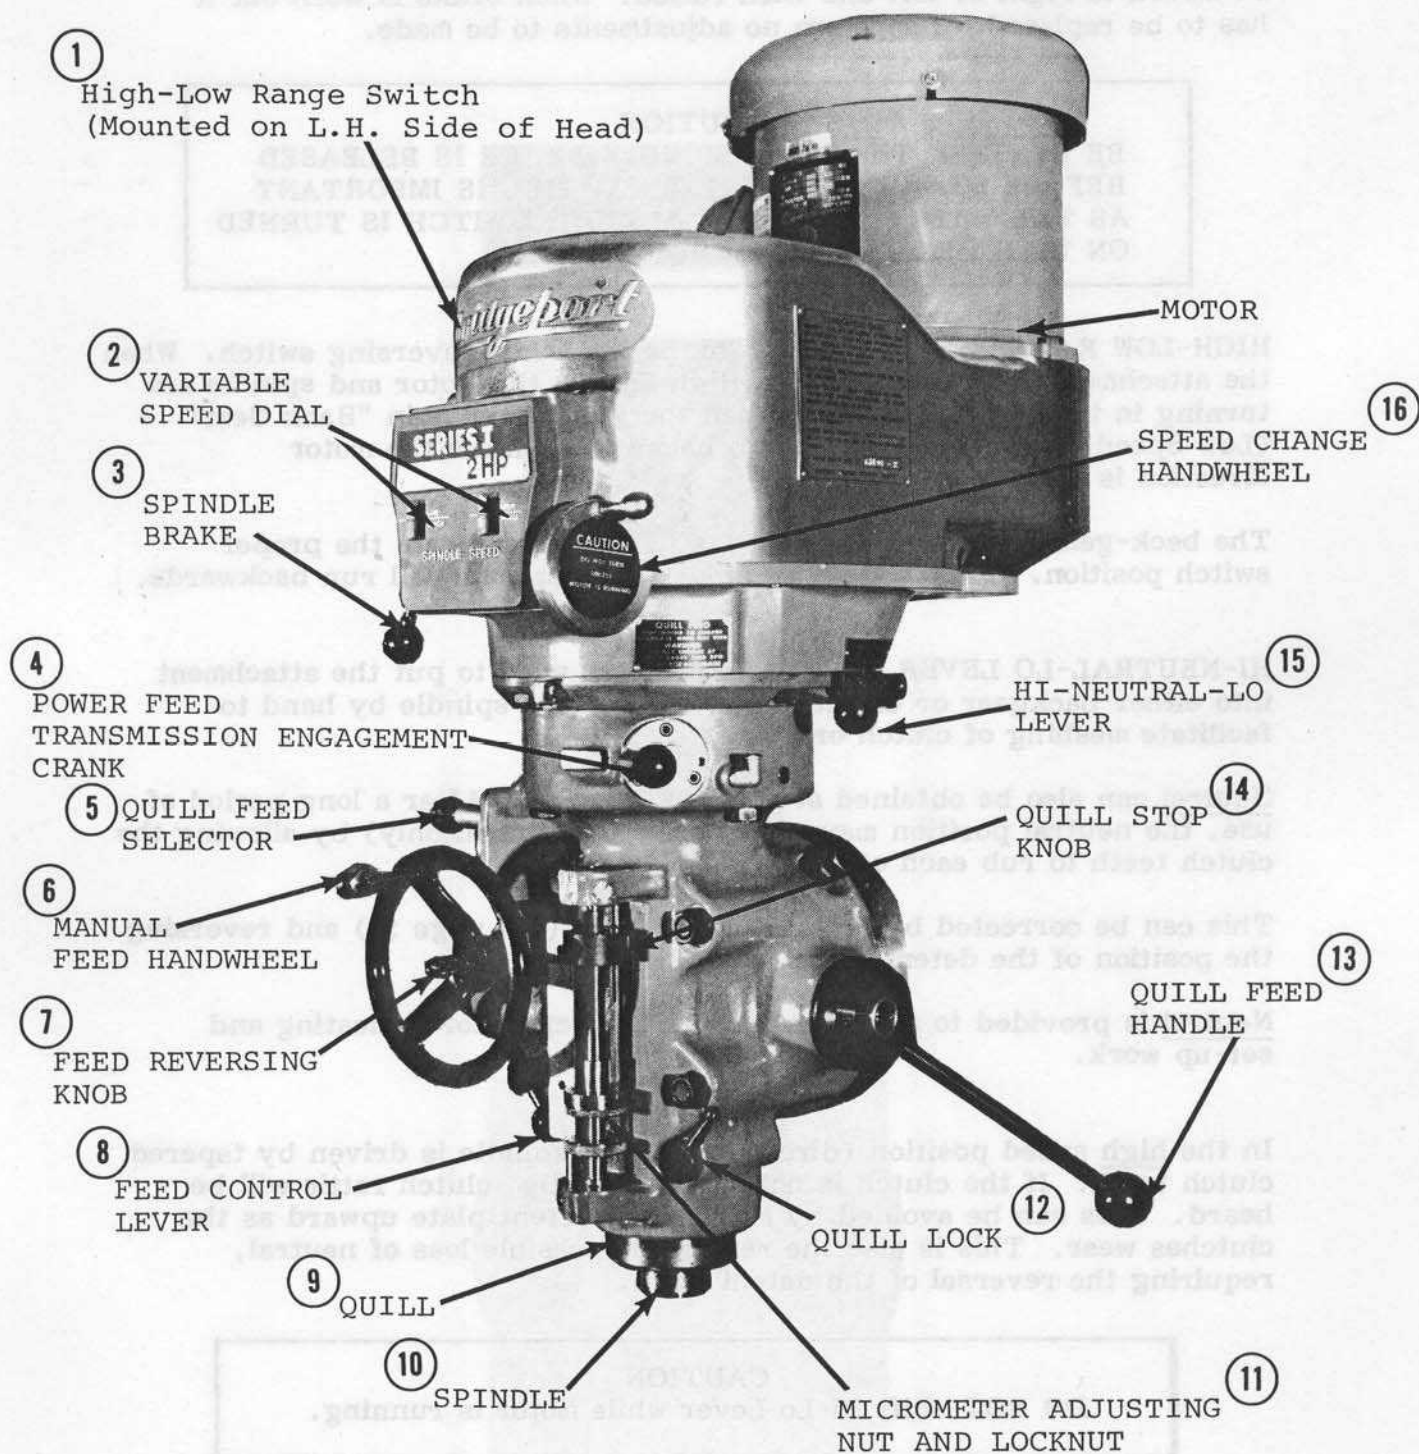
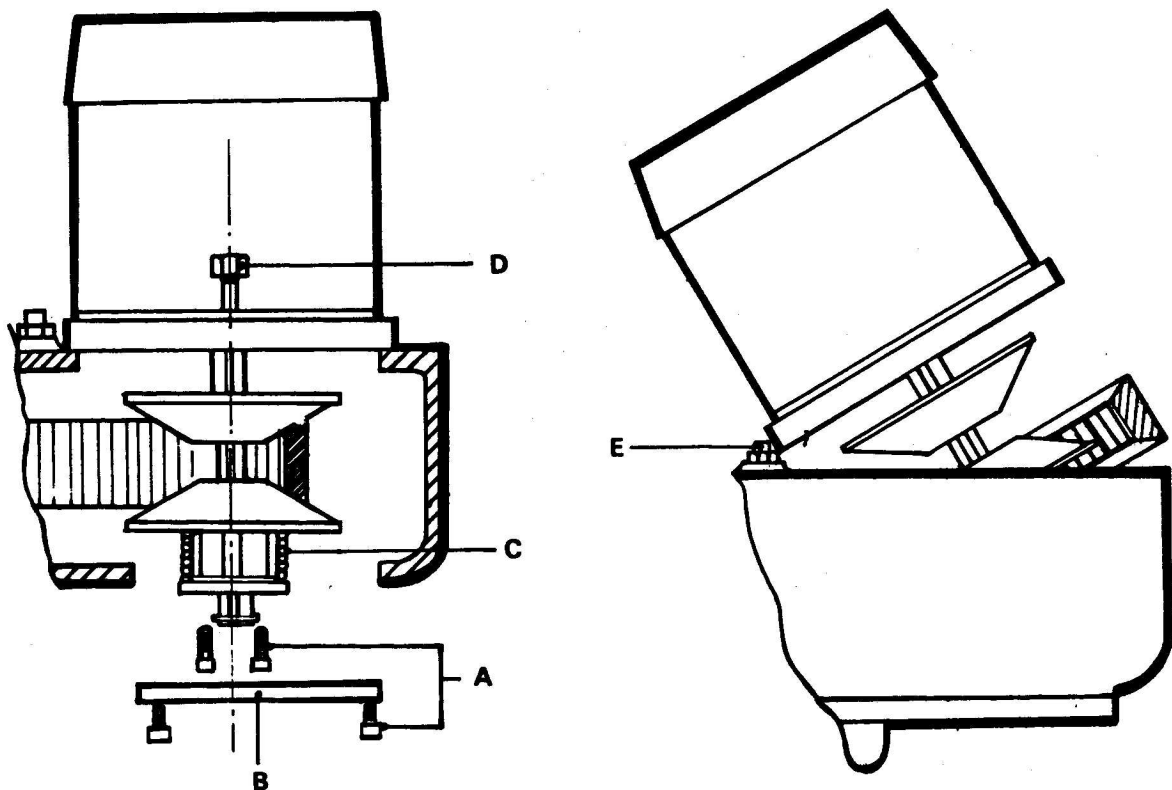
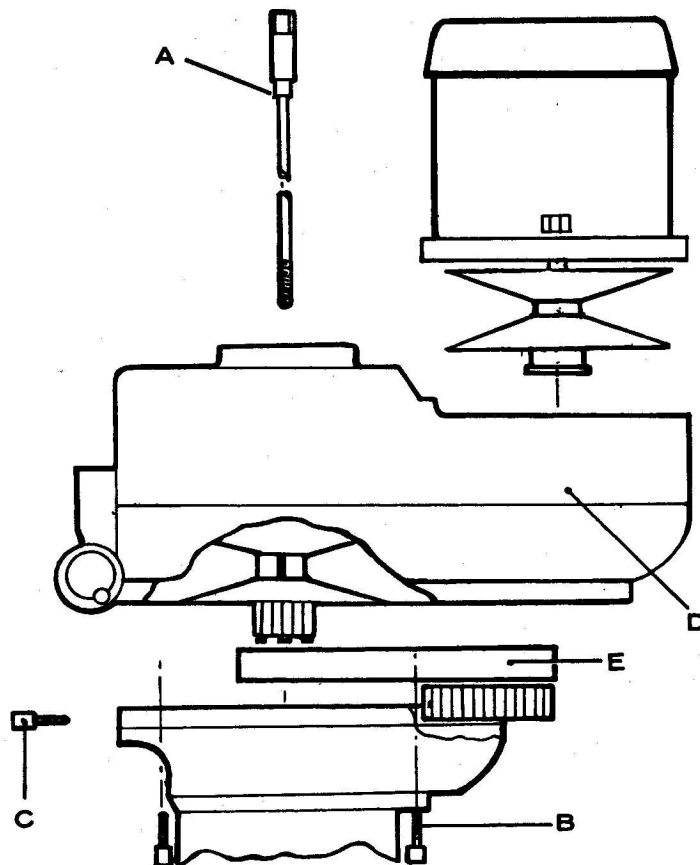

Figure 10. 2J Milling Attachment
Figure 11. Removing the Motor (Side View)
Figure 13. Removing Timing Belt
**SPEED CHANGE HANDWHEEL (16, Figure 10):** DO NOT attempt to change spindle RPM unless the motor is running. Dial speeds will only be approximate. Belt wear will cause a slight variation in speeds from what is indicated on the dial.
**SPINDLE BRAKE (3, Figure 10):** Brake lever can be moved in either direction to stop spindle; however, when locking spindle, lever should be moved to right or left and then raised. When brake is worn out it has to be replaced. There are no adjustments to be made.
**HIGH-LOW RANGE SWITCH (1):** This is the motor reversing switch. When the attachment is in direct drive (High Speed) the motor and spindle are turning in the same direction. When the attachment is in "Back Gear" (Low Speed) the spindle would run backwards unless the motor direction is reversed.
**POWER FEED TRANSMISSION ENGAGEMENT CRANK (4, Figure 10):** Engages power feed worm gear. When lever is in right hand hole, the power feed worm gear is engaged. To disengage worm gear, pull knob out and crank handle in clockwise or down direction and move to opposite position.
Wear on the vari-drive belt will cause a slight change in the speeds to that shown in windows (#22 page 36) on the dial. This can be corrected as follows. Crank the speed change handwheel (#16, Figure 10) snugly against the high speed stop. (This will be near the 4200 reading on the dial.) Use a tachometer to determine the spindle speed, then turn the pivot stud (#16 page 38), after loosening the jam nut (Item #7 page 38) until the spindle speed registers 4200 on the tachometer; tighten jam nut.
REMOVING THE MOTOR (See Figure 11): Run the attachment to the bottom of either speed range and shut off the motor. This puts the vari-drive belt in the best position for disassembly.
2. Remove the cover (#76 page 36) (B, Figure 11) at the lower end of the motor shaft. Use two cover screws (#75 page 36) (A) to fasten the spring (#44 page 38) (C) on the lower end of the motor shaft, to the lower motor vari-drive pulley (#43 page 38). This will reduce the hazard of personal injury that is always present when a heavy spring is under compression. When the pulley, spring retainer (#45 page 38) and spring are securely fastened as a single unit, crank the speed change handwheel (#16 Figure 10) to top speed position.
3. Now remove the screws (#9 page 38) (D) that fasten the motor to the belt housing. The motor should be lifted slightly and pulled firmly away from the spindle and toward the rear of the belt housing. This will pull the vari-drive belt (#27 page 38) deeply into the spindle pulley (#25 page 38), providing the slack needed to ship the belt over the motor pulley (#43 page 38).
4. Now lift the motor high enough to rest the motor base GENTLY on the adjusting screw (#16 page 38) (E) seen directly in front of the motor flange. The belt can now be slipped over the lower pulley and the motor removed from the housing.
## CHANGING TIMING BELT (Figure 13)
Complete the operation for removing the motor. Then put the Hi-Neutral-Lo lever (#15, Figure 10) in the Lo position, remove the drawbar (#14 page 38) (A, Figure 13) and lower the spindle.